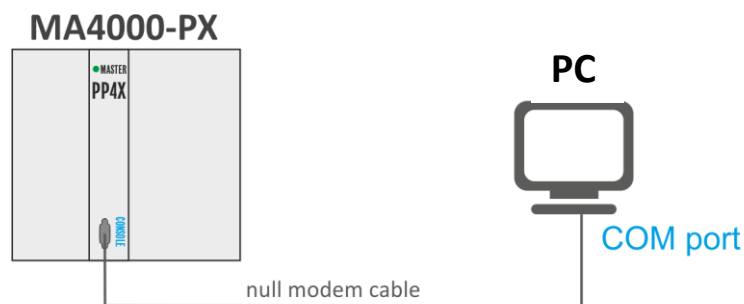

Fig. 15—Connecting access node to PC via COM port
Step 1. Using the null modem cable, connect the **CONSOLE** port of the PP4X master module ('Master' LED indicator should be solid green) to the COM port of the PC, see Fig. 15.